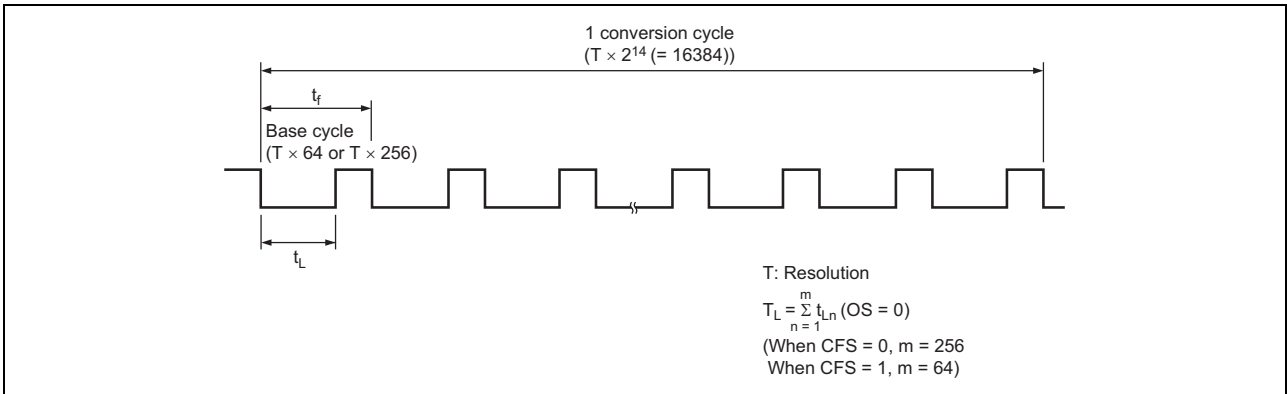
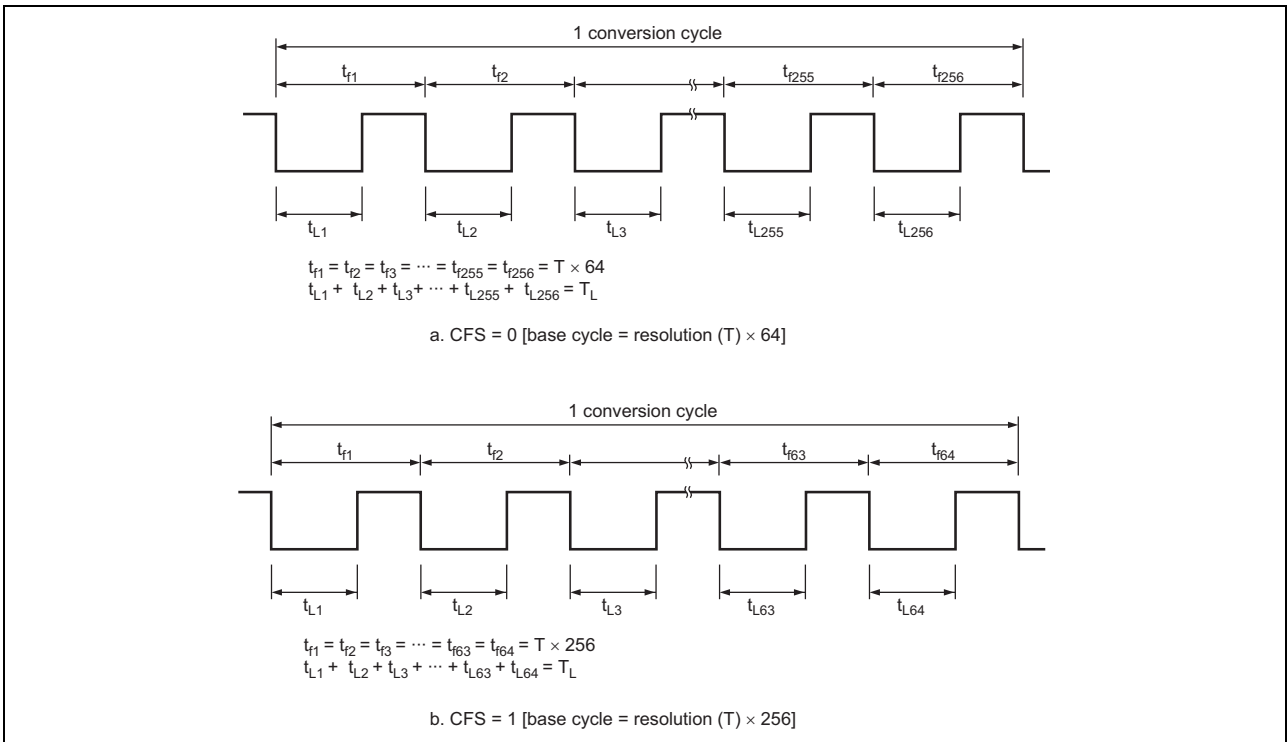

Figure 2 PWMX (D/A) Operation
Figure 3 Output Waveform (OS = 0, DADR corresponds to TL)
A PWM waveform like the one shown in figure 2 is output from the PWX pin. The value of DA13 to DA0 in the PWMX (D/A) control register (DADR) corresponds to the total 0-level width (TL) of the pulses output in one conversion cycle (256 pulses when CFS = 0, 64 pulses when CFS = 1). When OS = 0, the waveform is output directly. When OS = 1, the output waveform is inverted. In this case, the value of DA13 to DA0 in DADR corresponds to the total 1-level width (TH) of the output pulses. Figures 3 and 4 show the types of waveform output available.
The PWM output level remains fixed unless DA13 to DA0 in DADR contain at least a certain minimum value. The correspondence between the value of the OS bit and the output waveform is shown in figures 3 and 4.